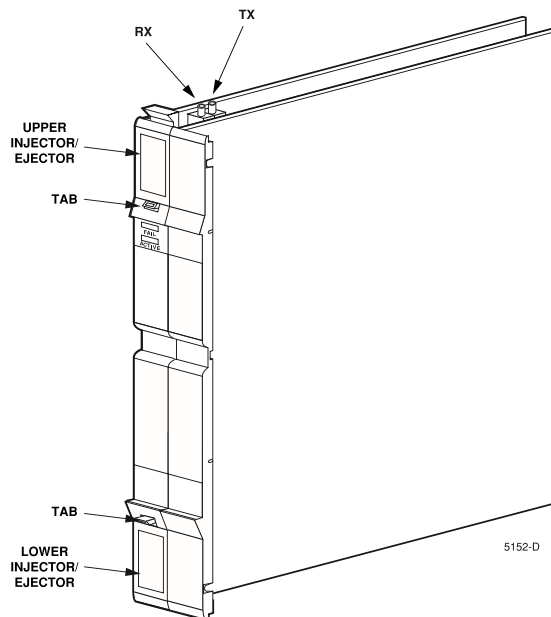

Figure 5-8. Coax Master Unit (CXMU)
3. Release the lock tabs on the CXMU injector/ejectors as shown in Figure 5-8.